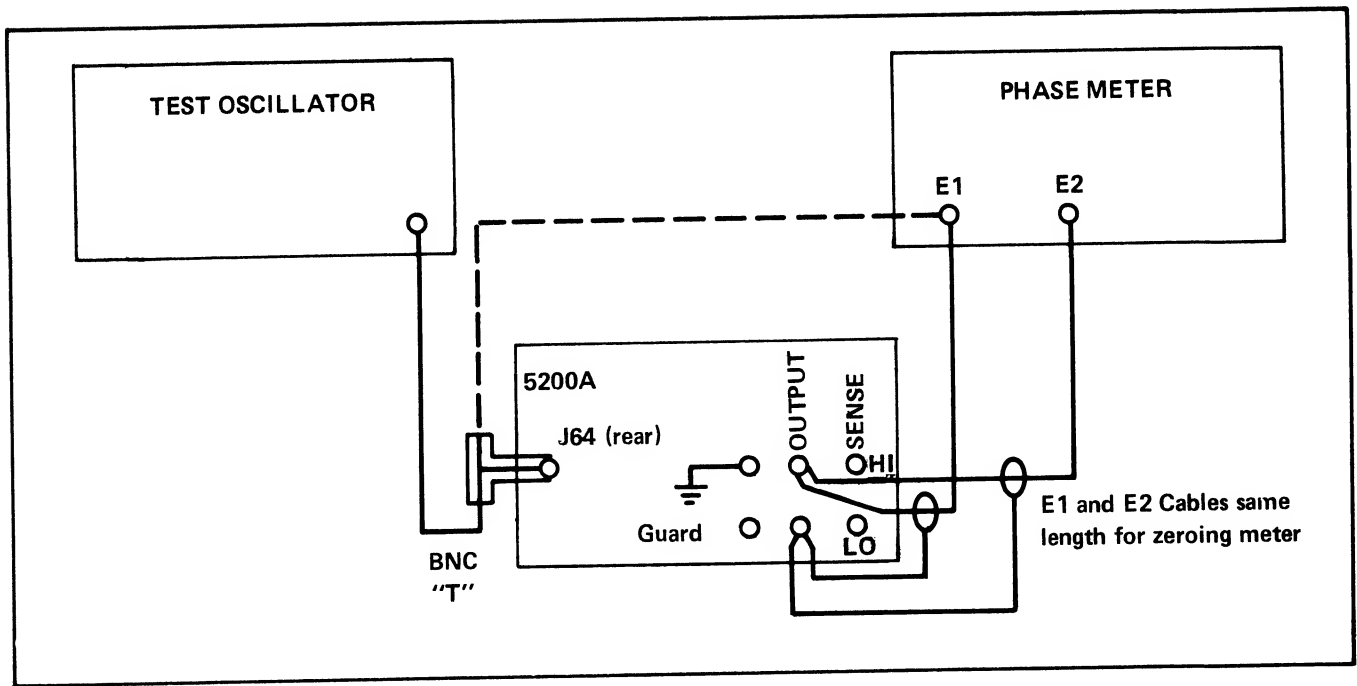

Figure 4-7. PHASE LOCK CALIBRATION CONFIGURATION
- d. Connect two cables of the same length (approximately 2 feet) between the 5200A output and the E1 and E2 inputs of the phase meter as shown in Figure 4-7.